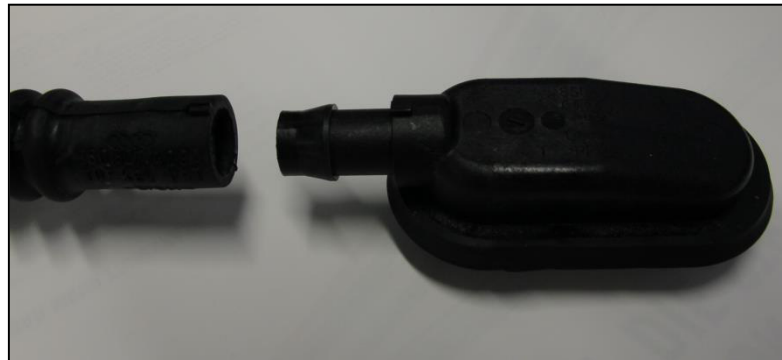

Fig. 10: Exchanging of water collector
17. **Attention:** Exchange the water collectors against the collectors included in delivery (fig. 10). Non-observance can lead to leakages in the trunk!